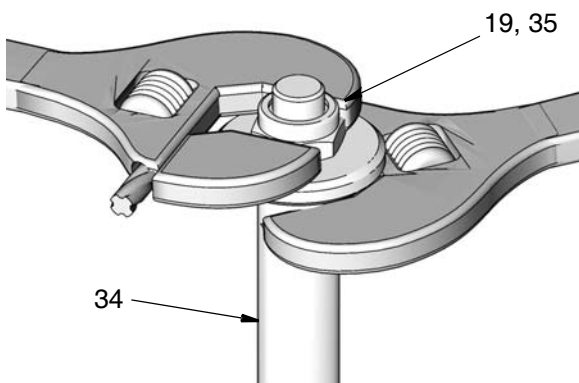
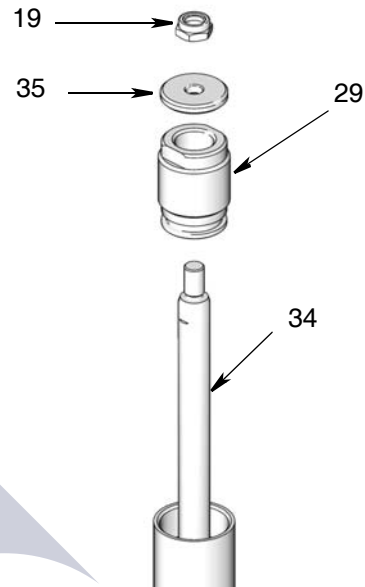

Fig. 3
Fig. 4
5. Use an adjustable wrench to hold the priming rod (34) securely. Use a second adjustable wrench to loosen and remove the nut (19) and priming piston (35) (Fig. 3, Fig. 4).
6. Use a wrench to loosen and remove the seal retainer (29) (Fig. 4).